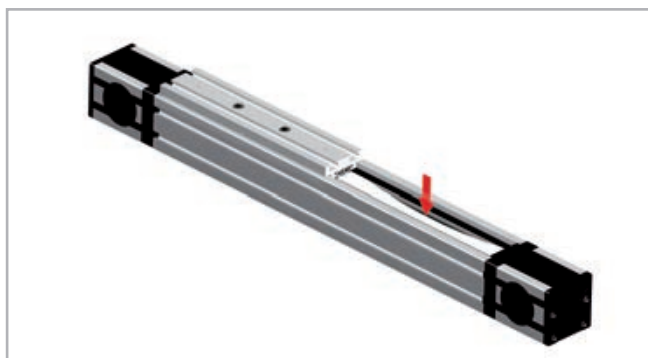

Fig. 32
2. At about half the stroke press and manually move the belt in order to see one of the two rails inside the unit (see Fig. 32).